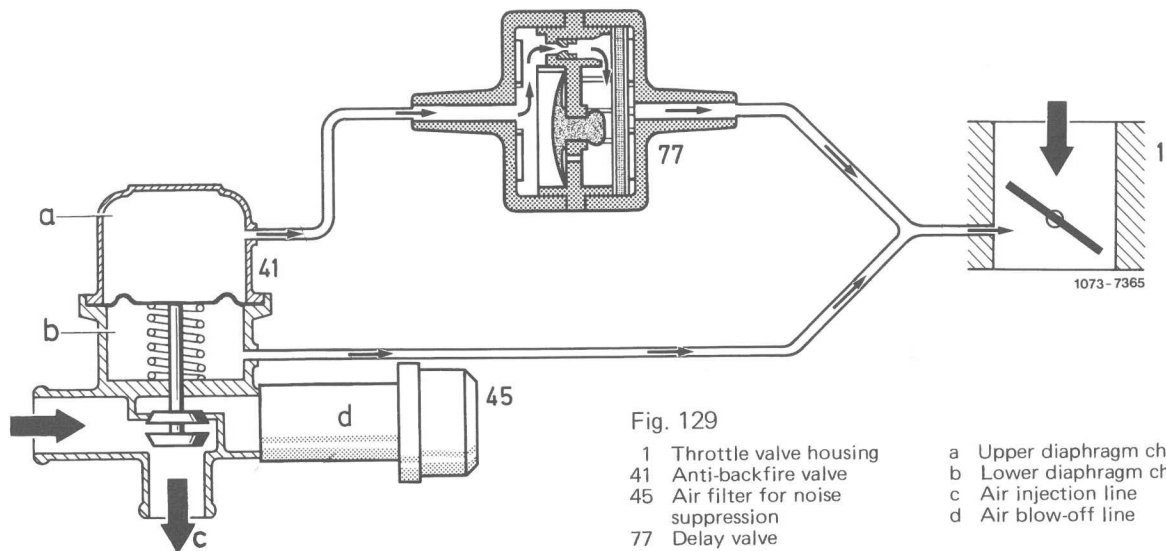

Fig. 129
The lower diaphragm chamber (b) of the anti-backfire valve (41) is connected directly to the intake manifold and the upper diaphragm chamber (a) is connected to it via a delay valve (77) (fig. 129 and 130).